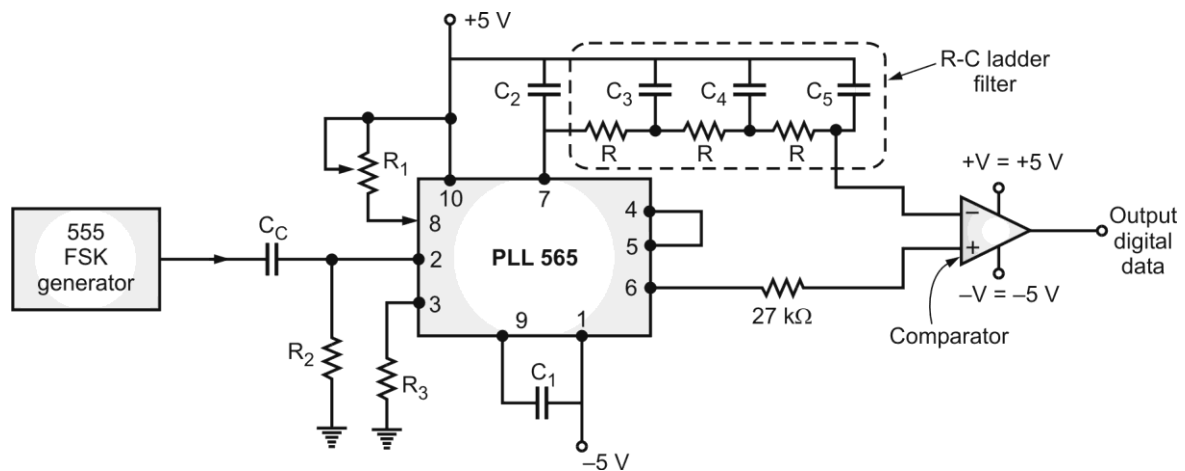

Fig. 5.5.9 : FSK demodulator using PLL
- FSK signal can be demodulated by using PLL as shown in Fig. 5.5.9.
- As shown in Fig. 5.5.9, the output of the 555 FSK generator is applied to the 565 FSK demodulator.